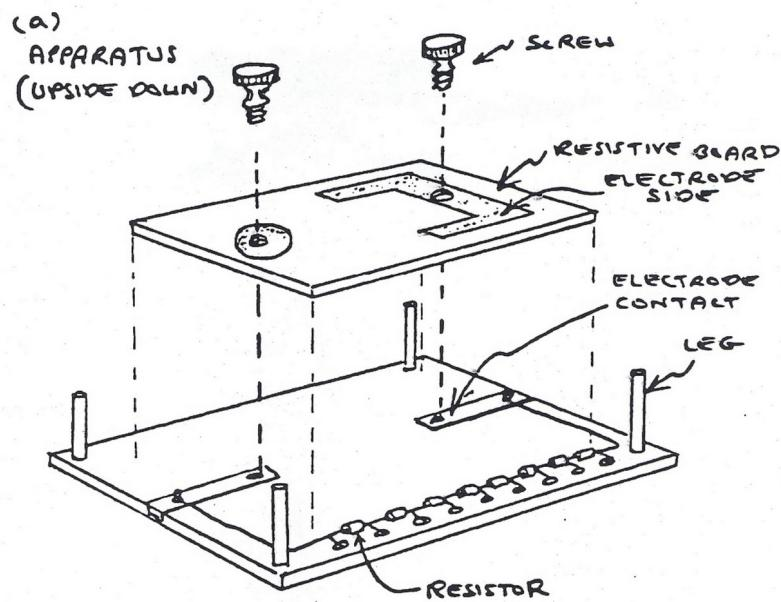

Figure 2: Mounting the resistive boards.
The electric field mapping apparatus is designed so that the resistive board is mounted on the bottom (see Fig. 2).
- Once turned over, hold the resistive board carefully by the edges and place the resistance board on the mapping board with the pattern side visible, so that the contact screws of the mapping board go through the two holes in the resistive board. See figure 2.